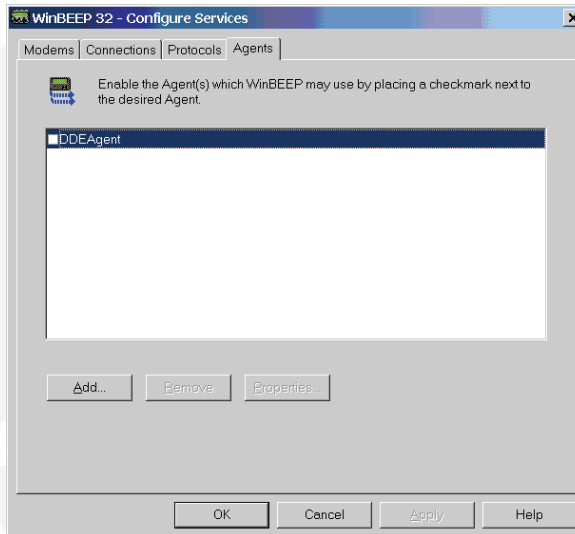

FIGURE 15-12. AGENTS
1. Click on the **Agents** tab, then click on the **Add** button, to add the new agent. Figure 15-12.